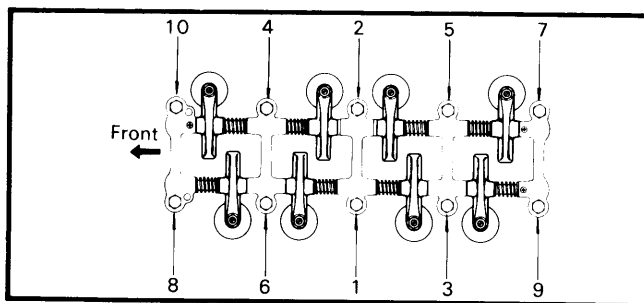

Fig. 1 Cylinder Head/Rocker Arm Bolt Tightening Sequence (Loosen in Reverse Order)
2) Paint mating marks on camshaft sprocket and timing chain. Remove rubber half circle seal and cam sprocket retaining bolt. Pull distributor drive gear and fuel pump drive cam off of sprocket. Remove sprocket from camshaft, allowing sprocket and chain to rest in cylinder head. Remove chain cover bolt, then remove cylinder head bolts in reverse of tightening sequence. See Fig. 1.
Installation – Apply liquid sealer at 2 front corners of block and position head gasket over locating dowels. Place head in position and turn camshaft so dowel is at top. Install rocker arm assembly over locating dowels and tighten head bolts in 3 steps in the sequence shown in Fig. 1. Continue installation in reverse of removal sequence, ensuring that valve and ignition timing is properly set.